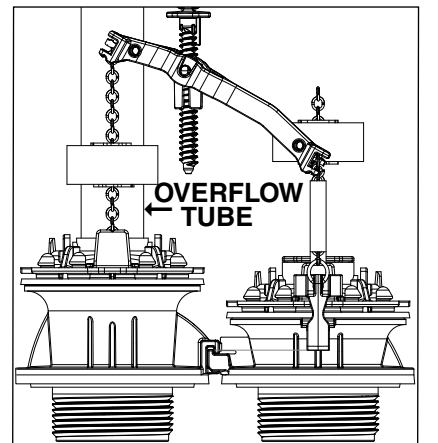

FIGURE 4
- Install the valve, orient valve assembly so overflow tube is positioned towards the back of the tank **FIGURE 4**